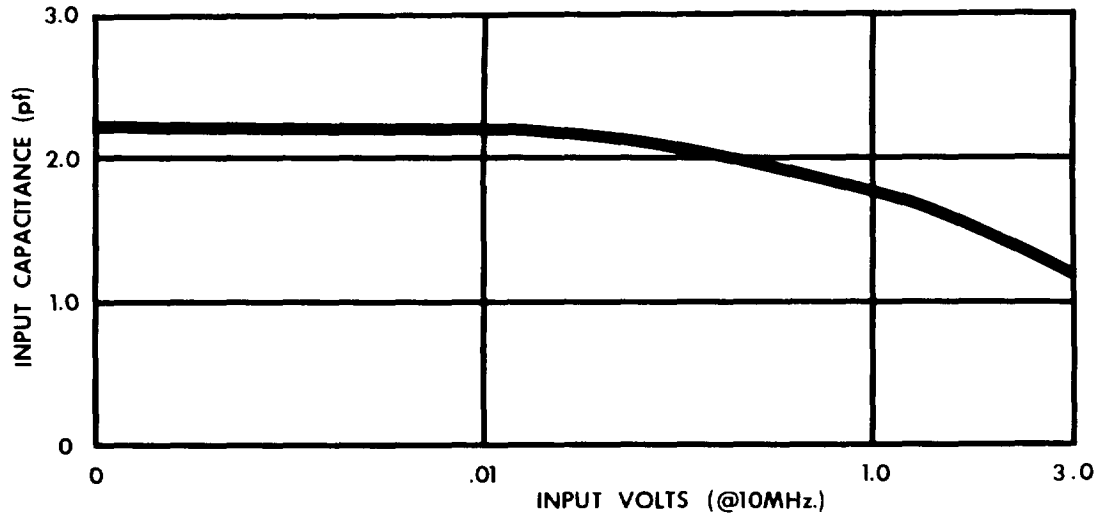

Figure 4-4. Probe input capacitance vs. level.
2. The capacity of the diodes varies inversely with signal level. Probe input capacity varies from approximately 1pf at 3V to 2.2pf at 10mV. (see figure 4-4)